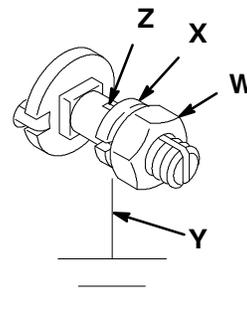

Fig. 2
To ground the pump, loosen the grounding lug locknut (W) and washer (X). Insert one end of a 12-ga (1.5 mm²) minimum ground wire (Y) into the slot in the lug (Z), and tighten the locknut securely. Connect the other end of the wire to a true earth ground. See Fig. 2. *To order a ground wire and clamp, order Part No. 222011.*